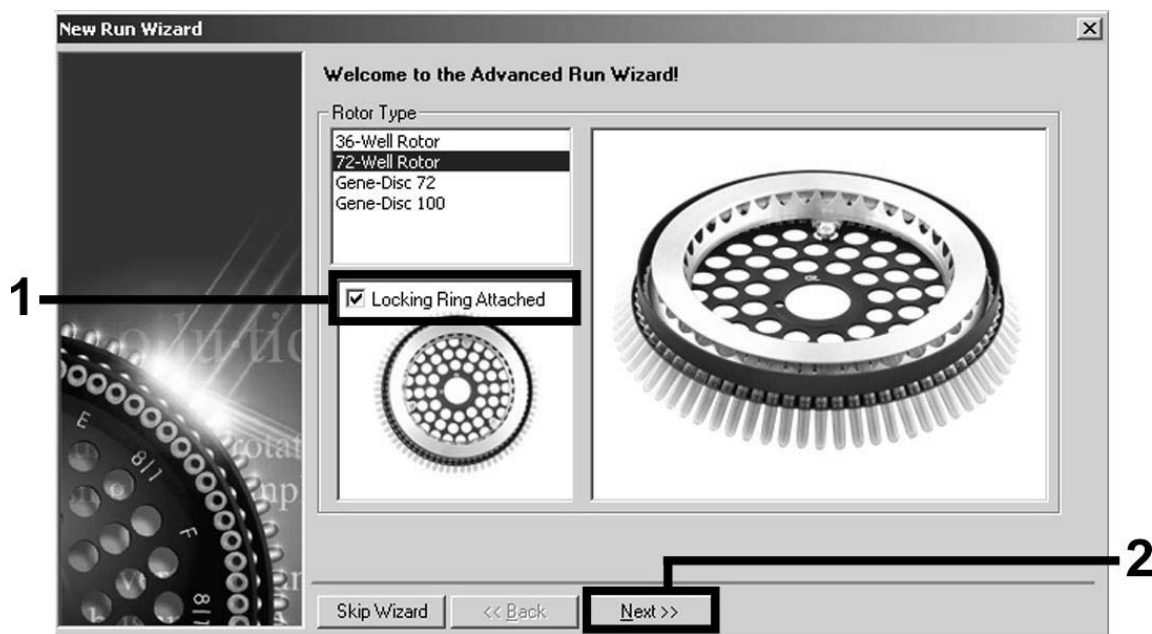

Figure 1. The "New Run Wizard" dialog box.
Setting the general assay parameters	Figures 1, 2, 3
6. First, open the "New Run Wizard" dialog box (Figure 1) with the "Advanced" version. Check the "Locking Ring Attached" box and click "Next".